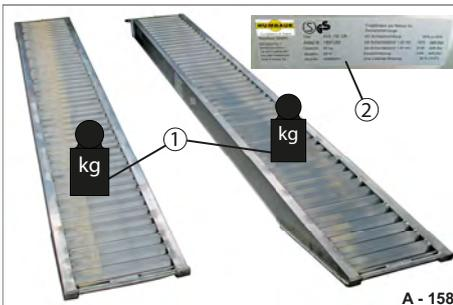

Fig. 168 Checking ramp planks
- ▶ Make sure that the vehicle to be loaded does not exceed the max. load bearing capacity (Fig. 168/1) of the ramp planks.
- ▶ Compare the max. values on the nameplate (Fig. 168/2) of the ramp planks.